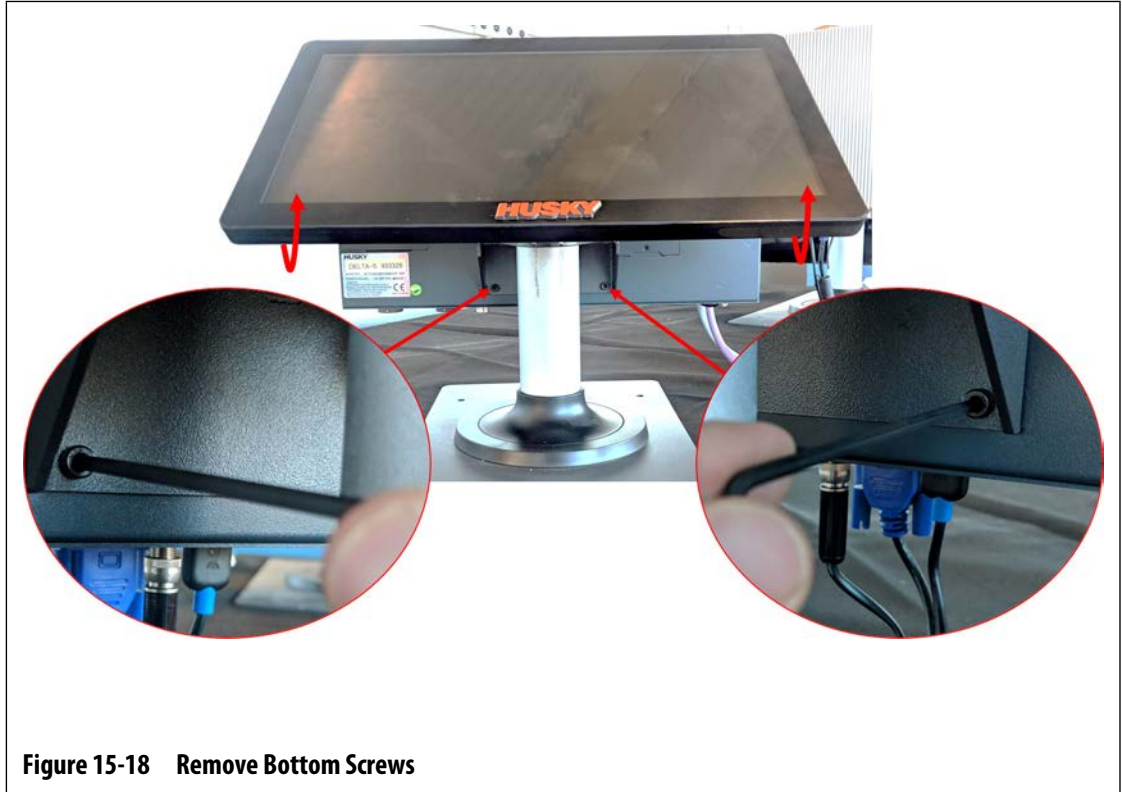

Figure 15-18 Remove Bottom Screws
5. Rotate the touch monitor to the full back position. Refer to Figure 15-18.
6. Find the two lower screws that hold the MCU to the mounting bracket and completely remove them with a 4 mm right angle Allen key or hex wrench. Refer to Figure 15-18.
- 12.** Rotate the touch monitor to the full back position. Refer to Figure 15-18.